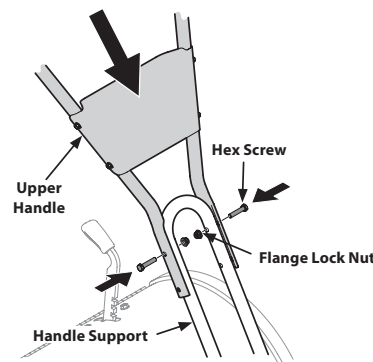

Figure 2
2. Using two hex screws and two flange lock nuts, loosely attach the handlebar support using the upper holes. See Figure 2.